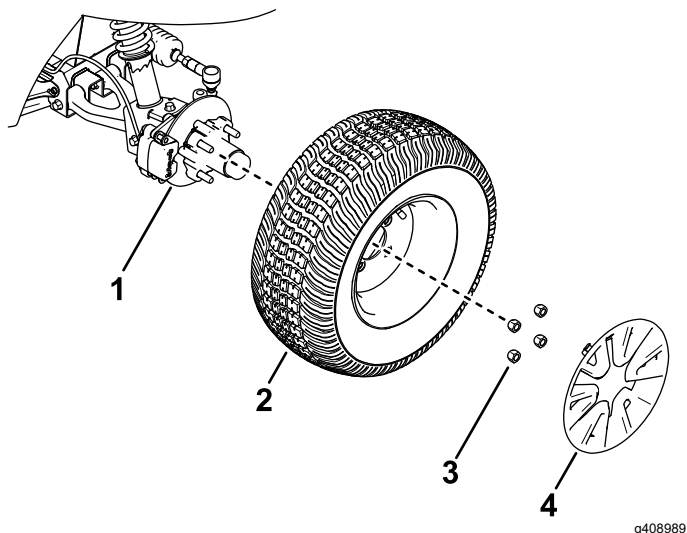

Figure 20
2. Remove the wheel cover and the 4 lug nuts that secure the wheel to the hub (Figure 20).
4. Align the holes in the wheel to the studs of the hub and assemble the wheel to the hub with the valve stem outward (Figure 20).
5. Secure the wheel to the hub using the lug nuts (Figure 20).